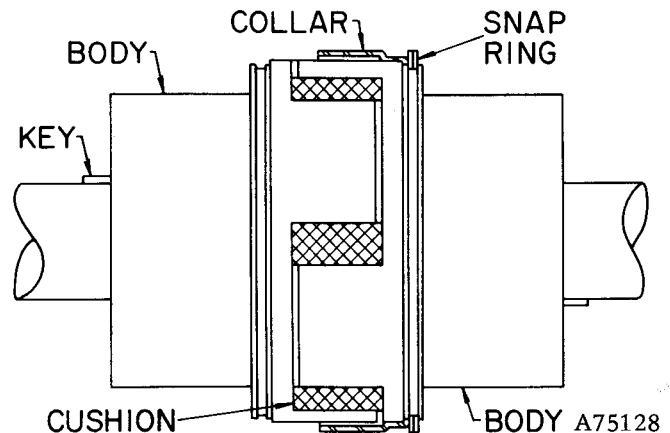

FIGURE 3-7. — COUPLING —
body. Be sure that collar and snap ring are installed on shaft behind one coupling body, Figure 3-7. Motor shaft and compressor shaft ends are set flush with the inner face of the coupling body. Distance between shaft ends will be approximately 1-5/8".
6. Insert individual cushions and slide outer collar over cushions, Figure 3-7, and secure snap ring.